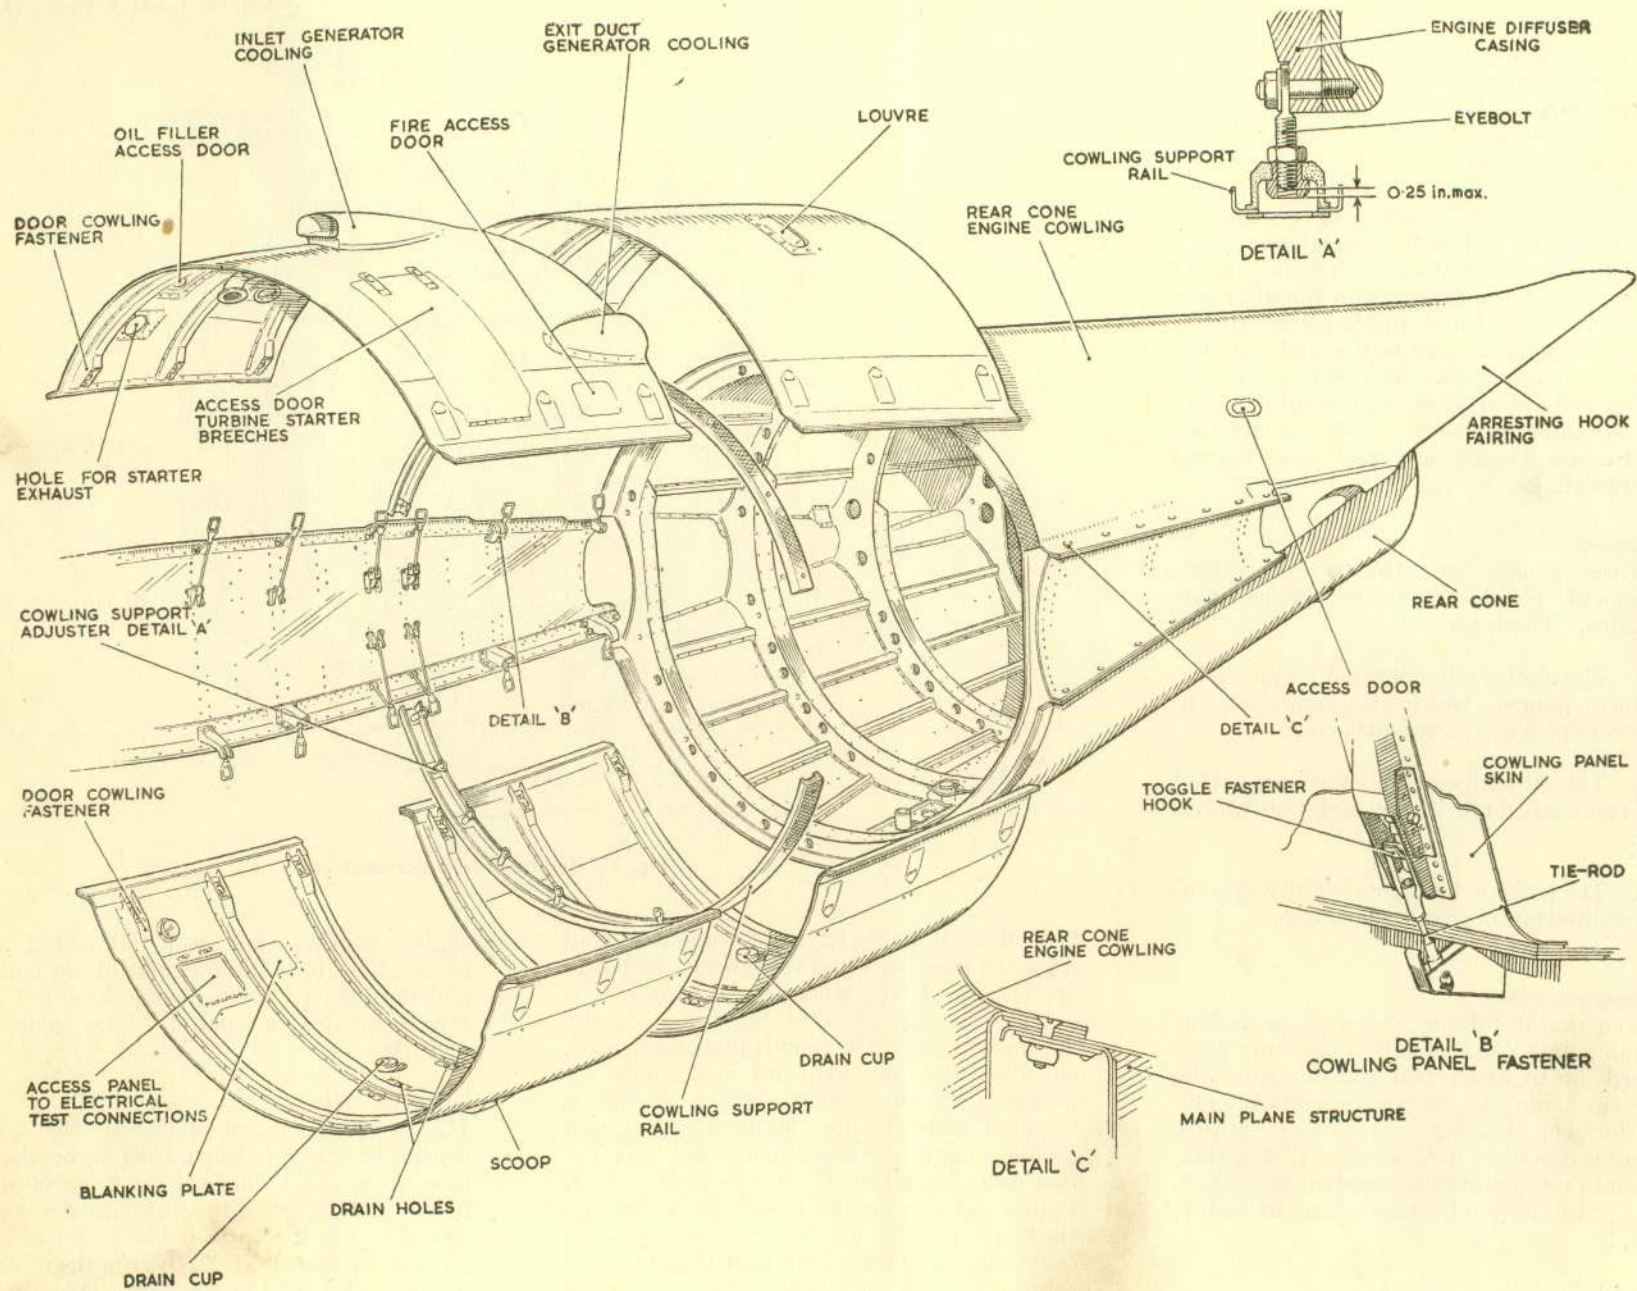

Fig. 3. Engine cowlings
5. A twin breech, cartridge-operated Rotax turbo-starter and a high energy igniter system, which is controlled by an automatic sequence from the cabin, comprise the equipment for starting the engine. The starter firing circuit, which is described in Sect. 5, Chap. 1, supplies a high voltage current to the surface discharger plugs fitted in No. 3 and No. 10 combustion chambers. The turbo-starter is mounted on the upper engine wheelcase forward of the twin generators and the exhaust gases are ducted through an opening in the upper front cowling panel (fig. 3). A full description, together with servicing instructions on the starter, is given in A.P.1181, Vol. 1 and 6, Part 1, Sect. 4, Chap. 2 and cartridge loading instructions are given in A.P.4320B, Vol. 1.